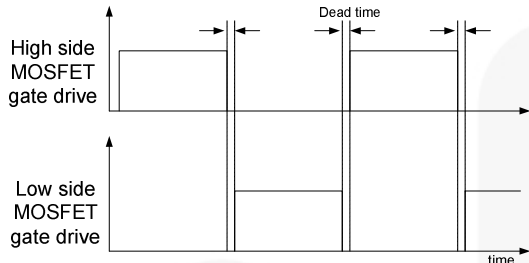

Figure 15. MOSFETs Gate Drive Signal
**1. Basic Operation:** FAN7621S is designed to drive high-side and low-side MOSFETs complementarily with 50% duty cycle. A fixed dead time of 350ns is introduced between consecutive transitions, as shown in Figure 15.